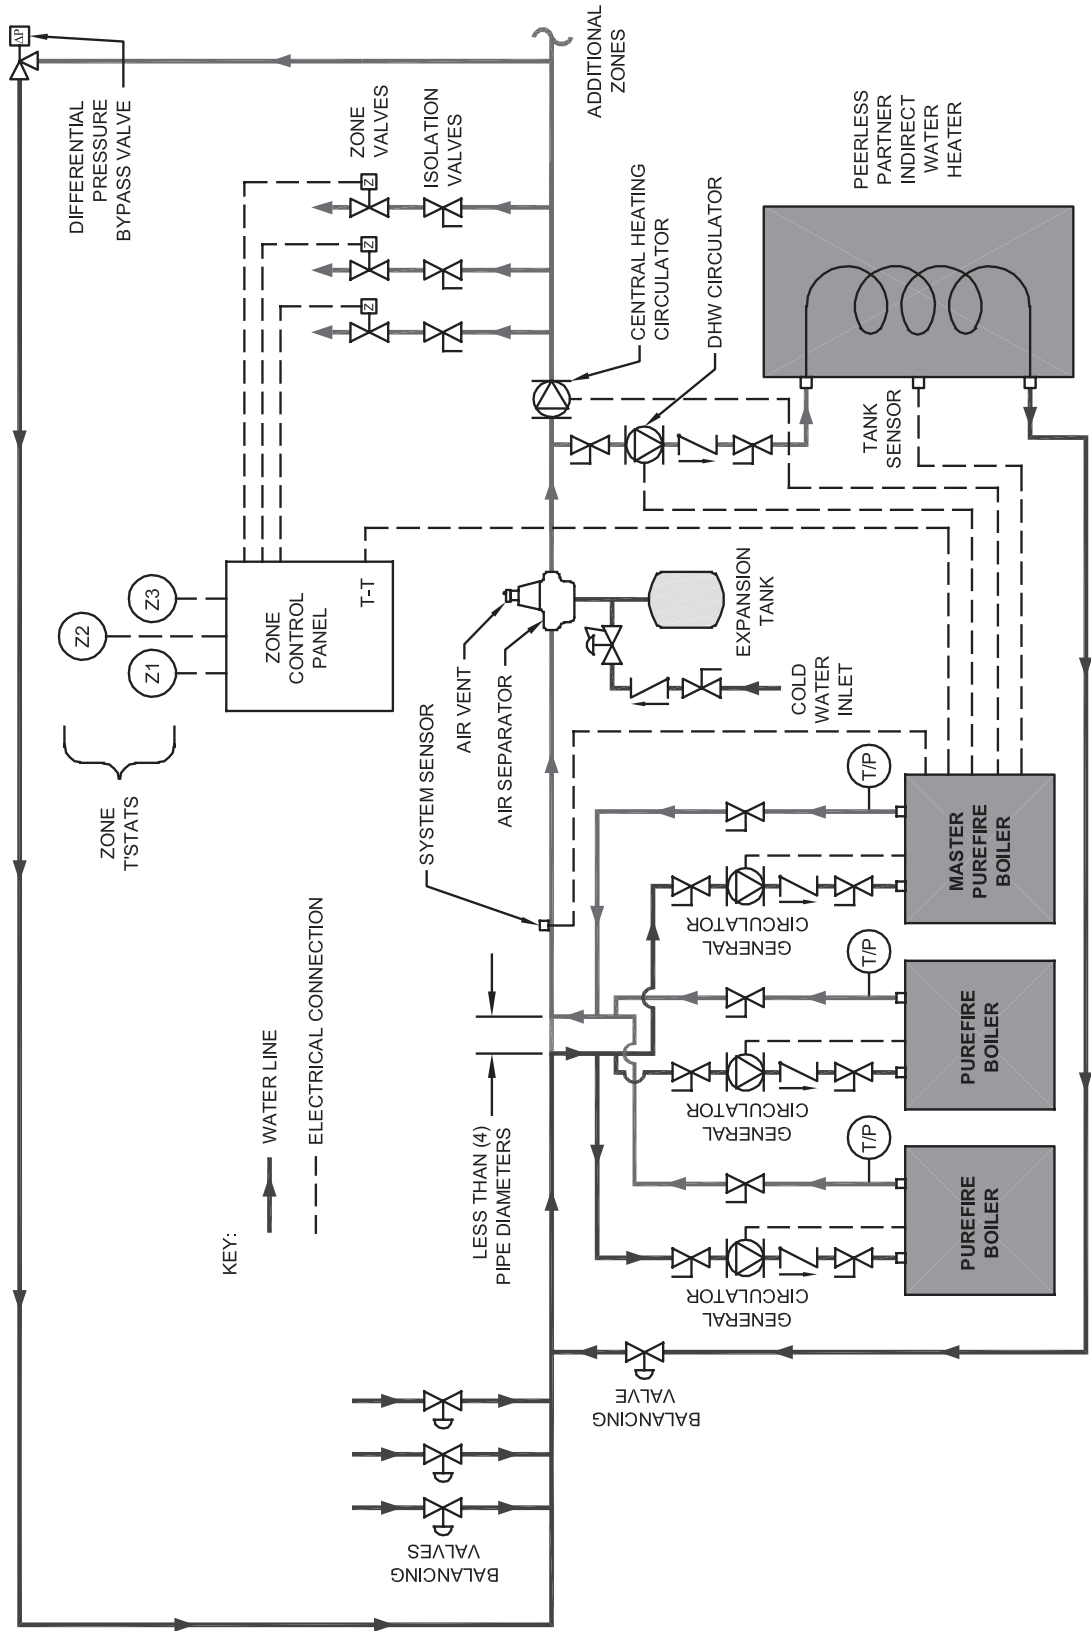

Figure 8.49: Multiple Boiler (Cascade) Piping / Electrical Connections for Systems with Zone Valves
- Figure 8.49 shows a typical system which uses a CH circulator, a DHW circulator and zone valves to distribute the heating load to the building.